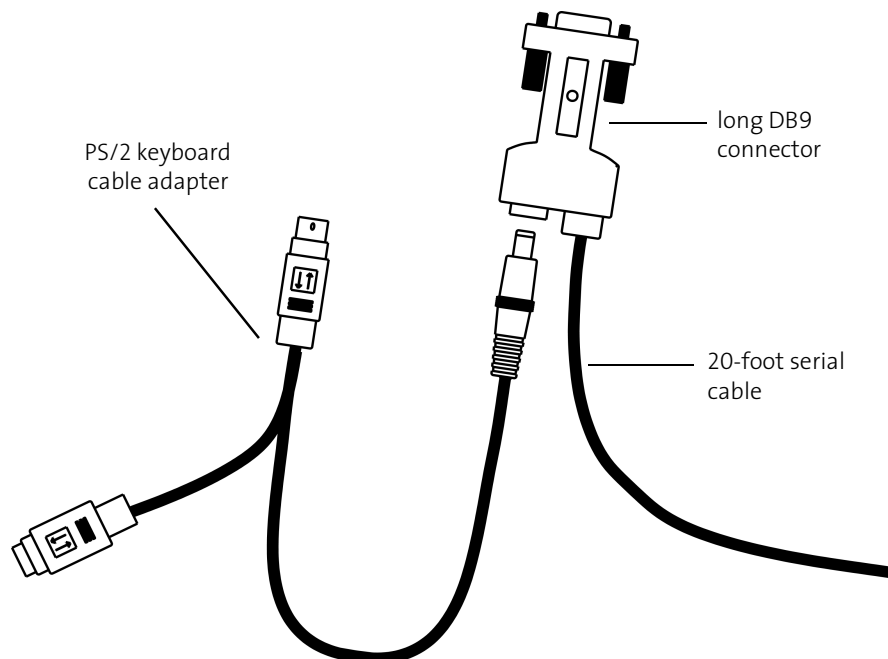

Figure 1-13 PS/2 adapter to long DB9 connector
3. At the other end of the 20-foot cable (the long DB9 connector), insert the PS/2 keyboard adapter cable into the DB9 connector (Figure 1-13).